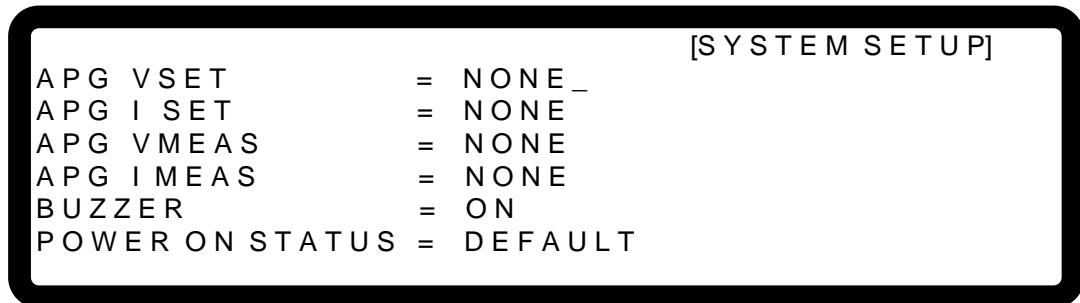

Figure 3-6
- Use the “”, “” keys to move the cursor to the column to be set as shown in Figure 3-6.